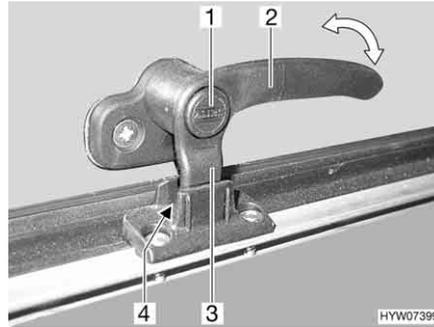
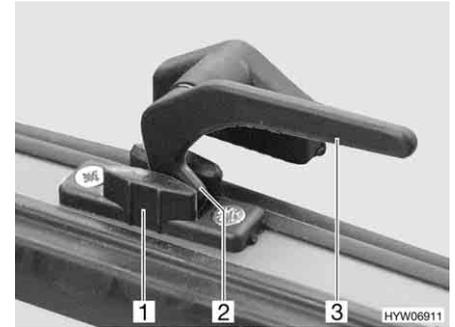

Fig. 60 Catch lever with safety knob in "continuous ventilation" position
Fig. 61 Catch lever in the "continuous ventilation" position
- "Continuous ventilation" (Fig. 60 and Fig. 61)
- Press and hold the security button (Fig. 60,1), if present.
- Turn the catch lever (Fig. 60,2 or Fig. 61,3) a quarter turn towards the centre of the window.
- Return the catch lever to its initial position. Move the locking catch (Fig. 60,3 or Fig. 61,2) on the catch lever into the recess of the window catch (Fig. 60,4 or Fig. 61,1).